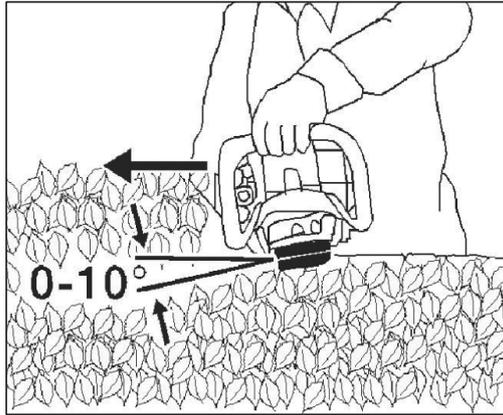

Fig 5
- For efficiency, tilt the blade about 10 ° without poking the tip of the trimmer. See fig.5